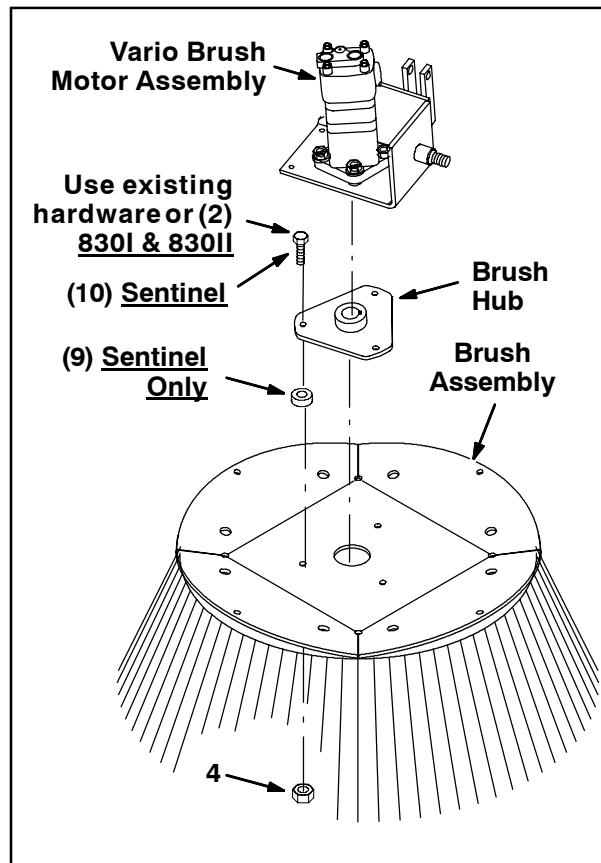

FIG. 3
2. **830I & 830II machines only:** Align the brush mounting holes with the three holes in the the brush hub and use the saved hardware (three hex screws (2) and three hex nuts (4) if existing hardware is damaged) to attach the brush assembly assembled in the previous step to the brush hub. **Do not** install the spacers (9). Refer to Fig. 3.
Sentinel machines only: Align the brush mounting holes with the three holes in the brush hub and use three hex screws (10), three hex nuts (4), and three spacers (9) to attach the brush assembly to the brush hub. Refer to Fig. 3.